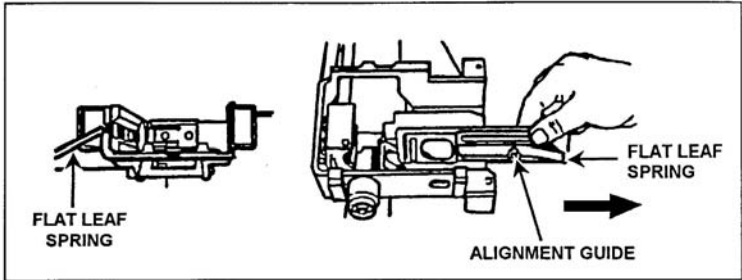

Figure 071-030-0001-10. Removal of the alignment guide assembly
- (1) Hold the top cover straight up to align the end of the cross pin.
- (2) Pull straight out on the pins.
- (3) Lift off the top cover.
- (4) Lift out the tray from the feeder.
- g. Remove the alignment guide assembly (figure 071-030-0001-10).